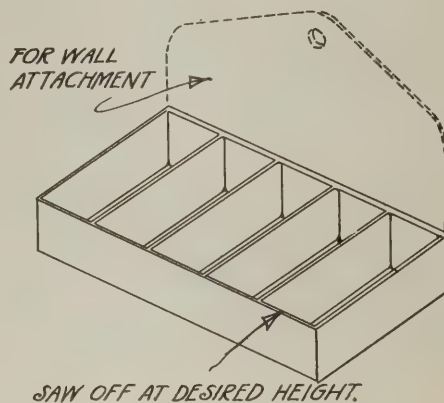

Fig. 2—Novel nail tray
D. A. H. also sends in the following letter referring to Fig. 2: "One of the most convenient accessories that the wood-worker at the bench can have is a container for small nails and screws. These things he often makes himself, of wood, or he buys those household baking tins that have about a dozen pockets in them or he may get hold of one of those metal trays that shoe repairers use to keep their various sized nails in, ready to the hand.